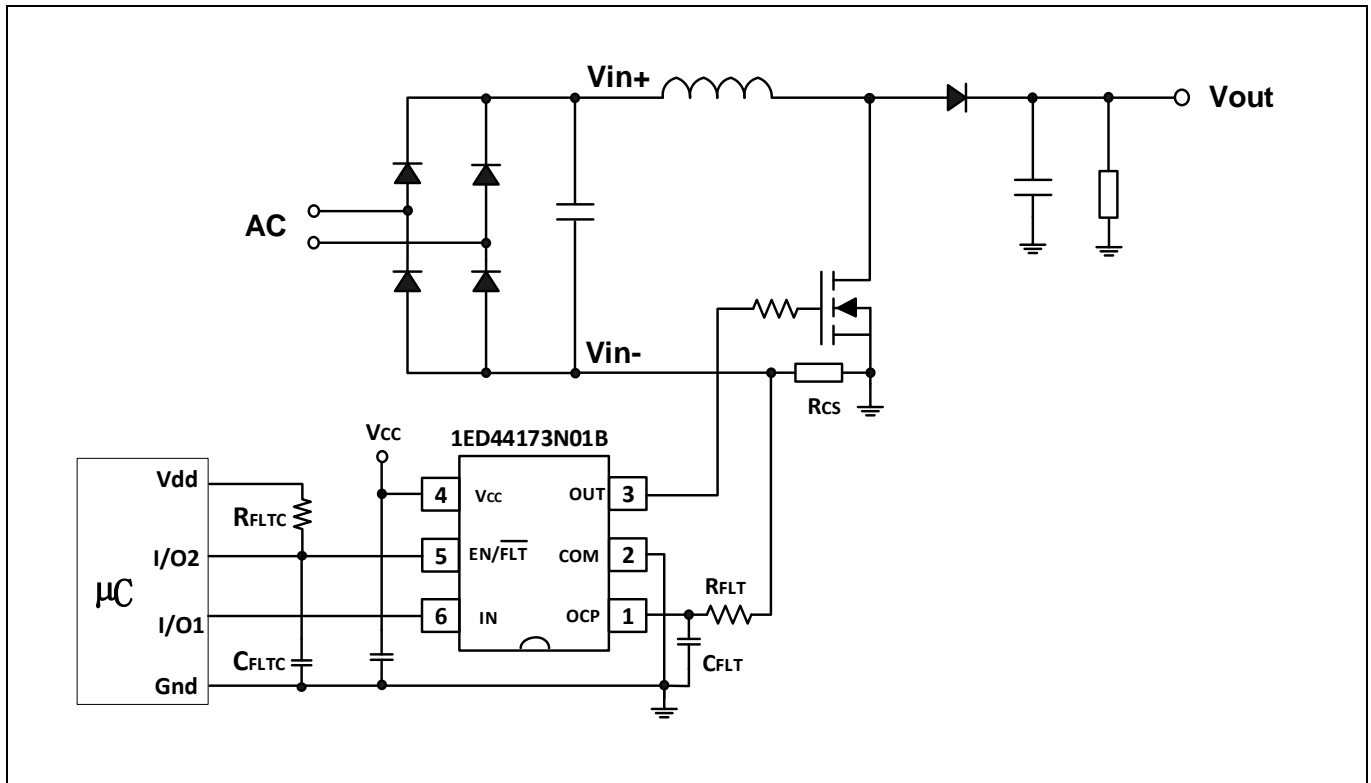
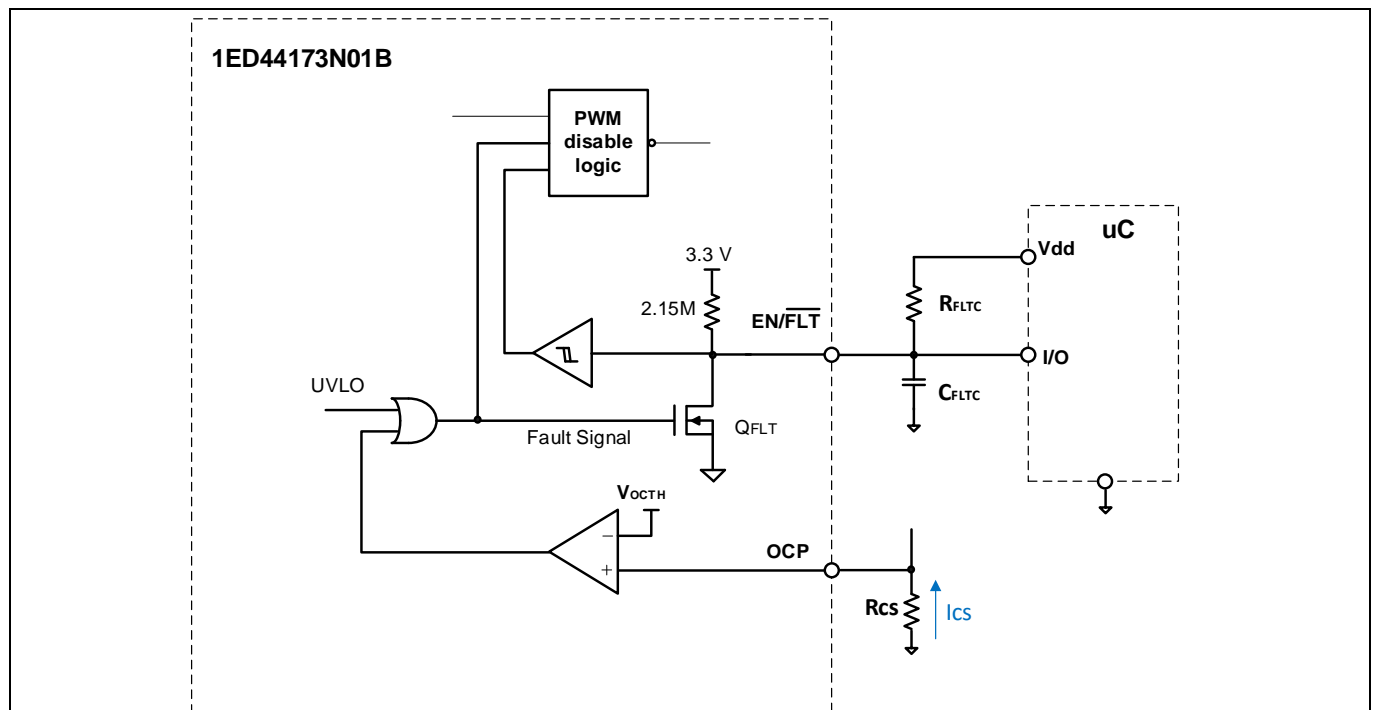

Figure 5 Application circuit example of active power factor correction (APFC) with R_{cs} for OCP
Figure 11 Diagram of the fault output circuit and fault clear time setup
- The R_{CS} should be connected between the pin of system ground and the input power return to detect short-circuit current (refer to Figure 5). An RC filter needs to be connected between the shunt resistor and the OCP pin if the internal blanking time is not sufficient to eliminate the noise.
Figure 5 shows a typical application circuit of 1ED44173N01B for the interface schematic with control signals connected directly to a XMC™ μ C.
The length of the fault clear time period (t_{FLTc}) is determined by exponential charging characteristics of the capacitor where the time constant is set by R_{FLTc} and C_{FLTc} . Figure 11 and Figure 5 show that R_{FLTc} is connected between the external supply ($V_{\text{dd}} = 3.3 \text{ V}$) and the EN/ $\overline{\text{FLT}}$ pin, while C_{FLTc} is placed between the EN/ $\overline{\text{FLT}}$ and COM pins. Actually the EN/ $\overline{\text{FLT}}$ pin is pulled up to 3.3 V with a 2.15 M Ω pull-up resistor internally.